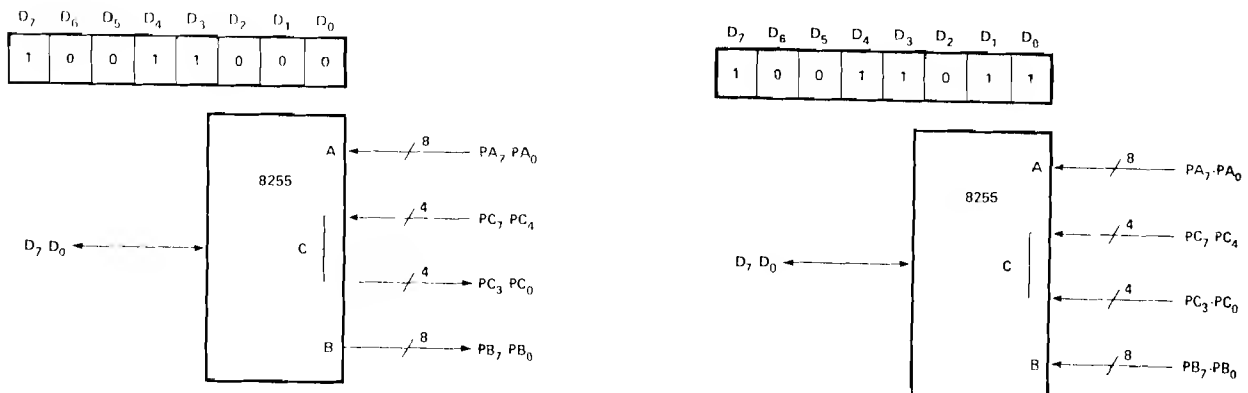

FIGURE 3-16. EXAMPLES OF MODE 0 CONFIGURATION.
- 16 different Input/Output configurations are possible in this Mode. Figure 3-16 shows two possible configurations.